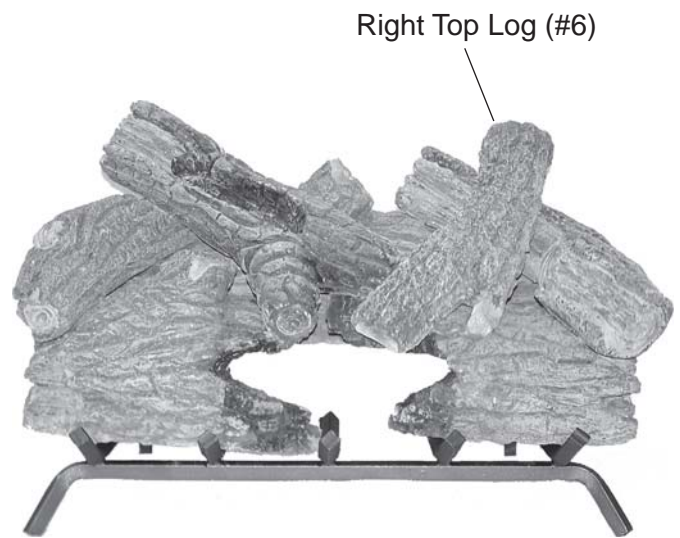

Figure 24 - Installing Right Top Log (#6)
8. Install right top log #6 as shown. *See Figure 24.*